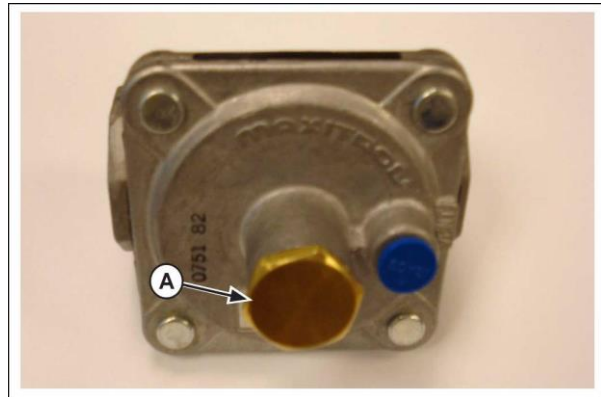

Figure 1. Regulator and large Nut.
Loosen the large nut (A) in the center of the regulator. (Figure 1).